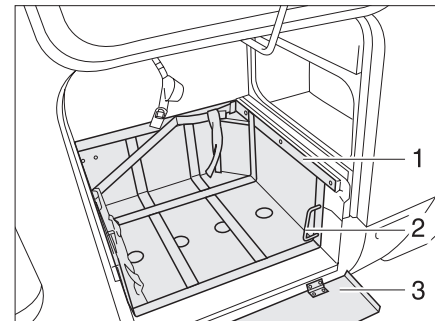

Fig. 128 Gas bottle compartment with extendable slide
- ▶ If there is a guard plate (Fig. 128,3), fold it down.
- ▶ Unlock the slide (Fig. 128,1) using the handle (Fig. 128,2).
- ▶ Pull slide (Fig. 128,1) out fully.
- ▶ Turn back the handle (Fig. 128,2).
- ▶ Push slide (Fig. 128,1) back in fully and turn handle (Fig. 128,2) back.
- ▶ If there is a guard plate (Fig. 128,3), fold it up.